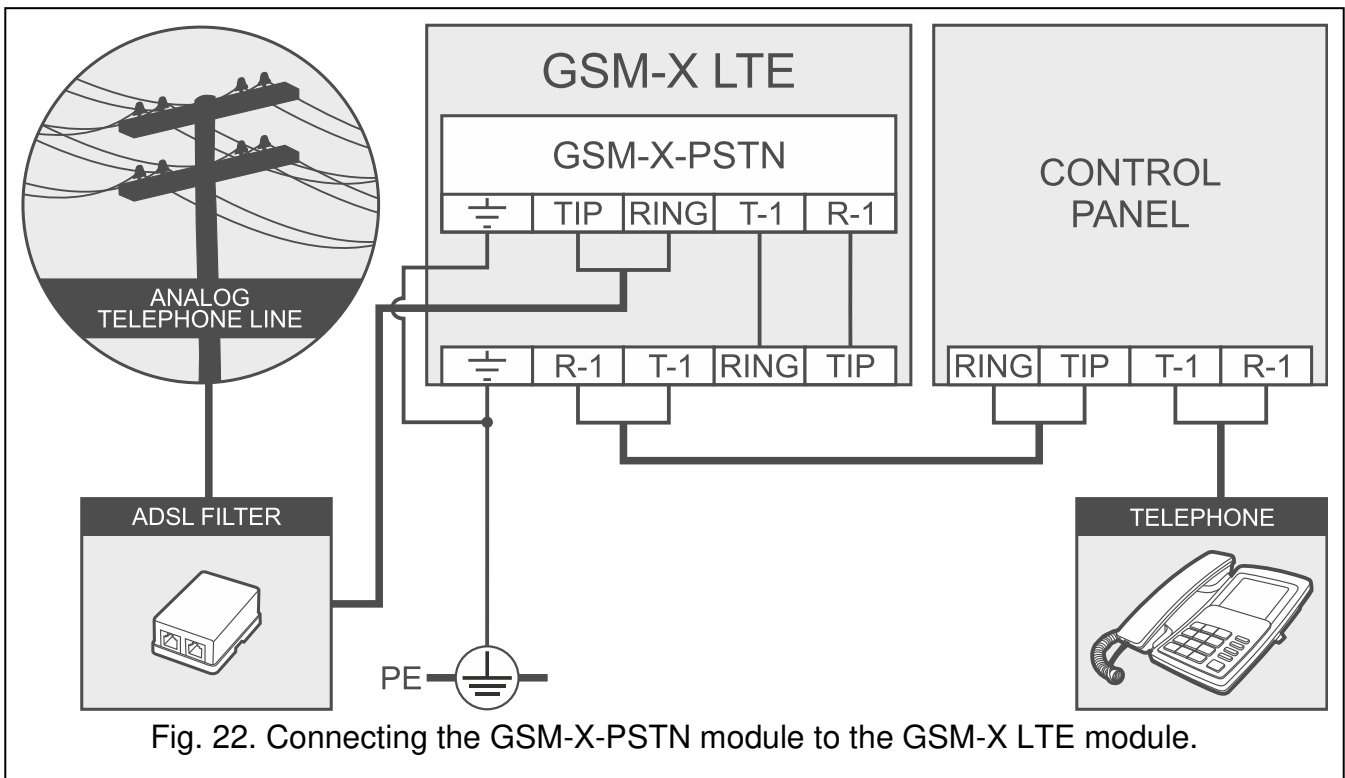

Fig. 22. Connecting the GSM-X-PSTN module to the GSM-X LTE module.
4. Connect terminals T-1 and R-1 of the module to terminals TIP and RING of the GSM-X LTE module (Fig. 22).
5. Connect the incoming telephone line to terminals TIP and RING. If the ADSL service is used on the premises, the module should be connected after the ADSL filter (Fig. 22).
6. Connect terminals T-1 and R-1 of the GSM-X LTE module to terminals TIP and RING of the control panel (Fig. 22). Any telephone located on the premises can be connected to terminals T-1 and R-1 of the control panel.
7. Connect terminals $\overline{\text{PE}}$ of the GSM-X LTE and GSM-X-PSTN modules to the protective earth conductor (PE) of the 230 VAC mains (Fig. 22). To make the connection, use a conductor with $\geq 0.75 \text{ mm}^2$ cross-section. Never connect the $\overline{\text{PE}}$ terminal to the neutral conductor (N).